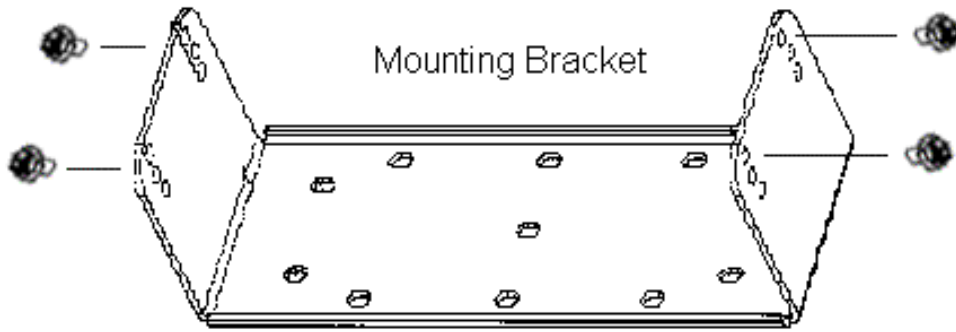

Figure 9 – Mounting Radio to Bracket
3. Place the radio into the mounting bracket and secure with the four 3/8” Phillip’s screws supplied. The radio can be fastened in any of three different positions: parallel to the mounting surface or tilted slightly from the parallel position. (Refer to Figure 9.)
3. Refer to Figure 9 for instructions on connecting the External Speaker option and Figure 10 for instructions on connecting the Internal/External Speaker option.